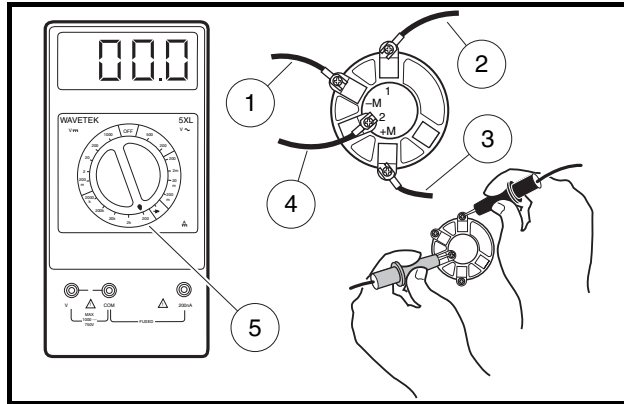

Figure 12-8 Key Switch Starter Circuit Test – For Pedal-Start Vehicles
4. Insert the key and turn the key to ON. Place the red (+) probe of the multimeter on the (2) terminal and the black (–) probe on the (1) terminal of the key switch. The reading should be continuity. If the reading is incorrect, replace the key switch (**Figure 12-8, Page 12-14**).